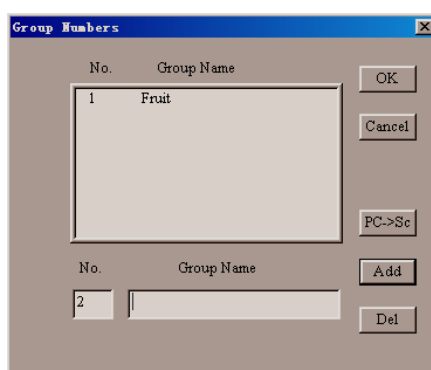

Fig. 6-12
- Here will show GROUP dialog box as fig. 6-12.